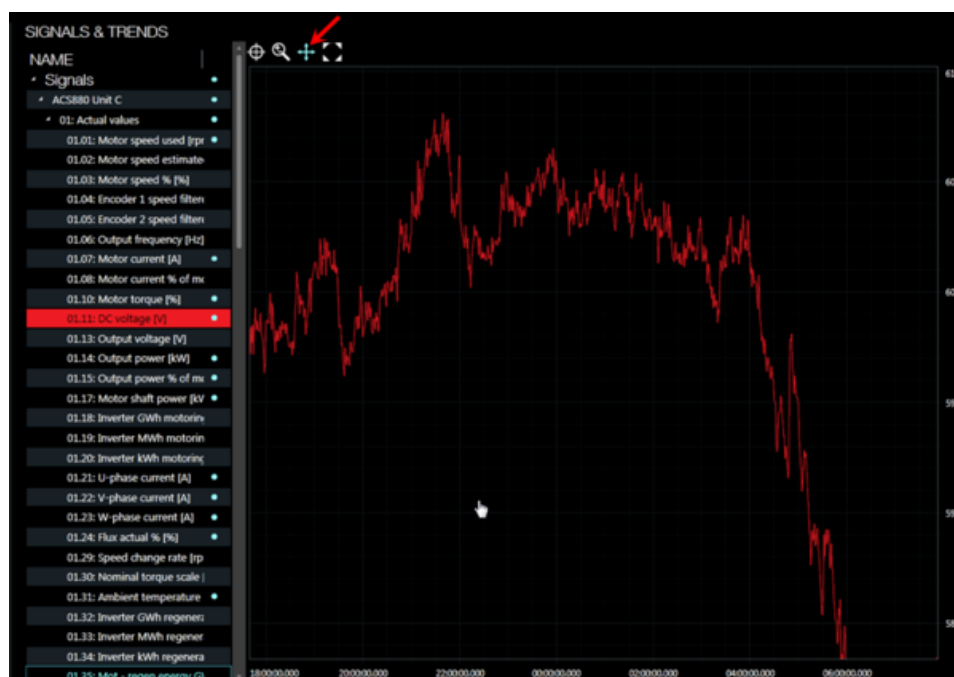

Figure 17 - Panning the plot area
- After selecting an event in the Event List and switching to the Signals tab, the time stamp of this particular event is used as a time reference for the signals displayed on the trend. To erase these settings and let the user to provide his/her own time scale, it is required to first click the button marked as field (3) in Figure 17.
- Buttons marked as (4) in are used to navigated the variable list between the signals, to select the signals to display, and to expand and to collapse the variable tree.